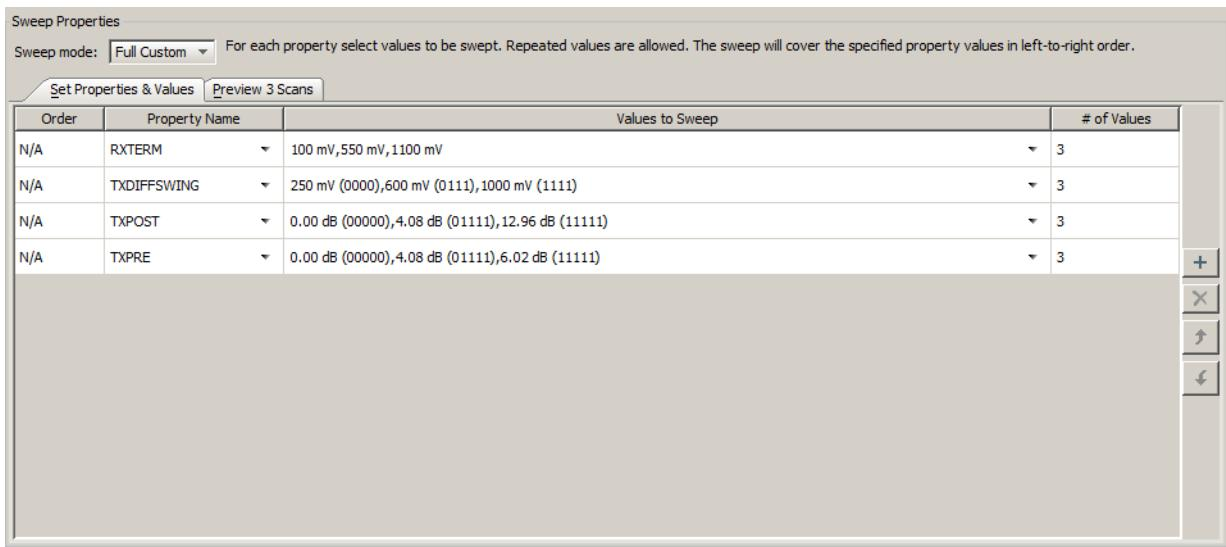

Figure 14-8: Sweep Properties Dialog Box
- In the Semi Custom case shown in Figure 14-8, every combination of the properties chosen is defined for a single scan, and that scan is performed according to the sweep properties. The number of sweeps that are performed, and in what order can be previewed by selecting the **Preview & Scans** tab.